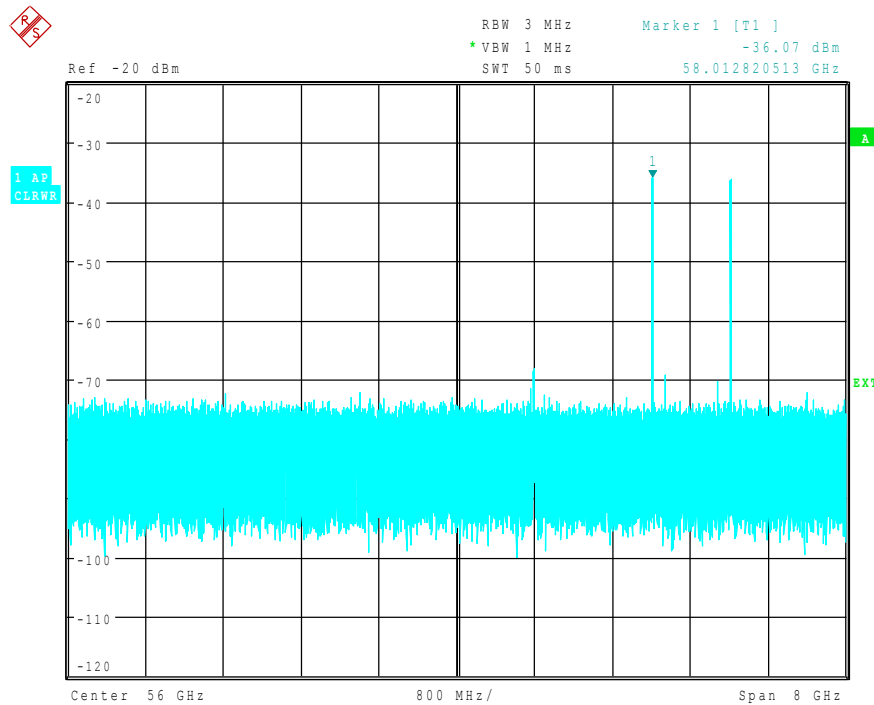

Fig. 4.41 Spectrum at the multiplier output recorded with an external mixer
- The display shown in Fig. 4.41 is obtained.
The spectrum represented in Fig. 4.41 contains the input signal and also a large number of unwanted mixer products. Two functions are provided by the R&S FSU to identify real input signals. The implemented methods are described in section "Signal Identification" on page 4.278. The *AUTO ID* function is used in this example.